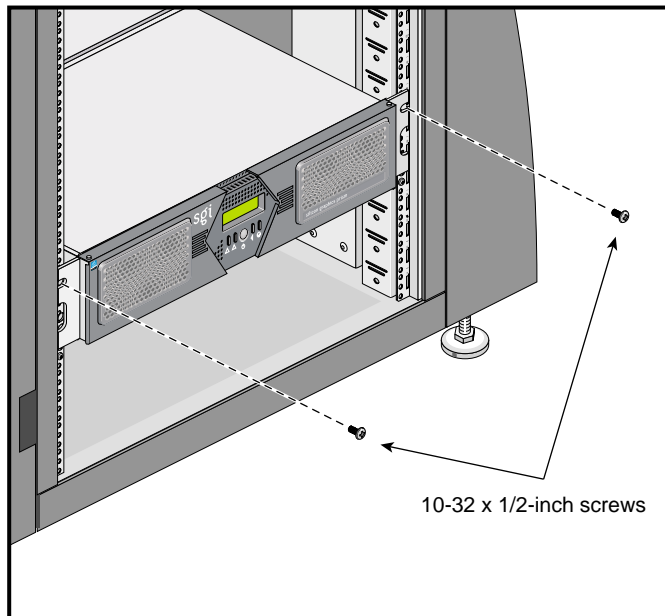

Figure B-9 Securing the Module to the Rack
6. Secure the module to the rack by inserting a 10-32 x 1/2-inch Phillips screw in the top hole of each chassis ear (see Figure B-9).
Caution: Do not lift the module by its bezel; it is not designed to handle the weight of the module. Instead, use the chassis ears to move the module (see Figure B-9).